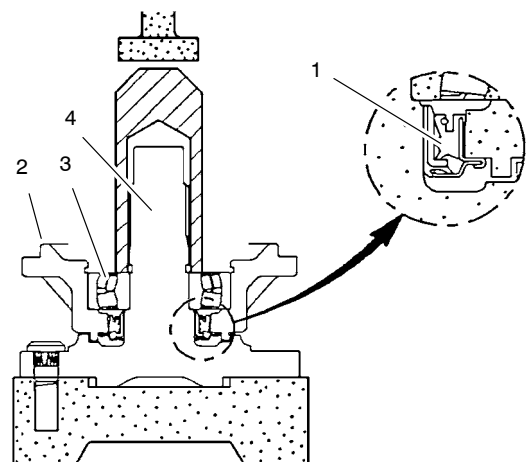

Figure 17
1. Coat new axle shaft seal with grease and install in axle cover as shown (Fig. 17).
2. Press the axle cover and bearing assembly onto the axle shaft. Press only on the inner race of the cover bearing (Fig. 17).